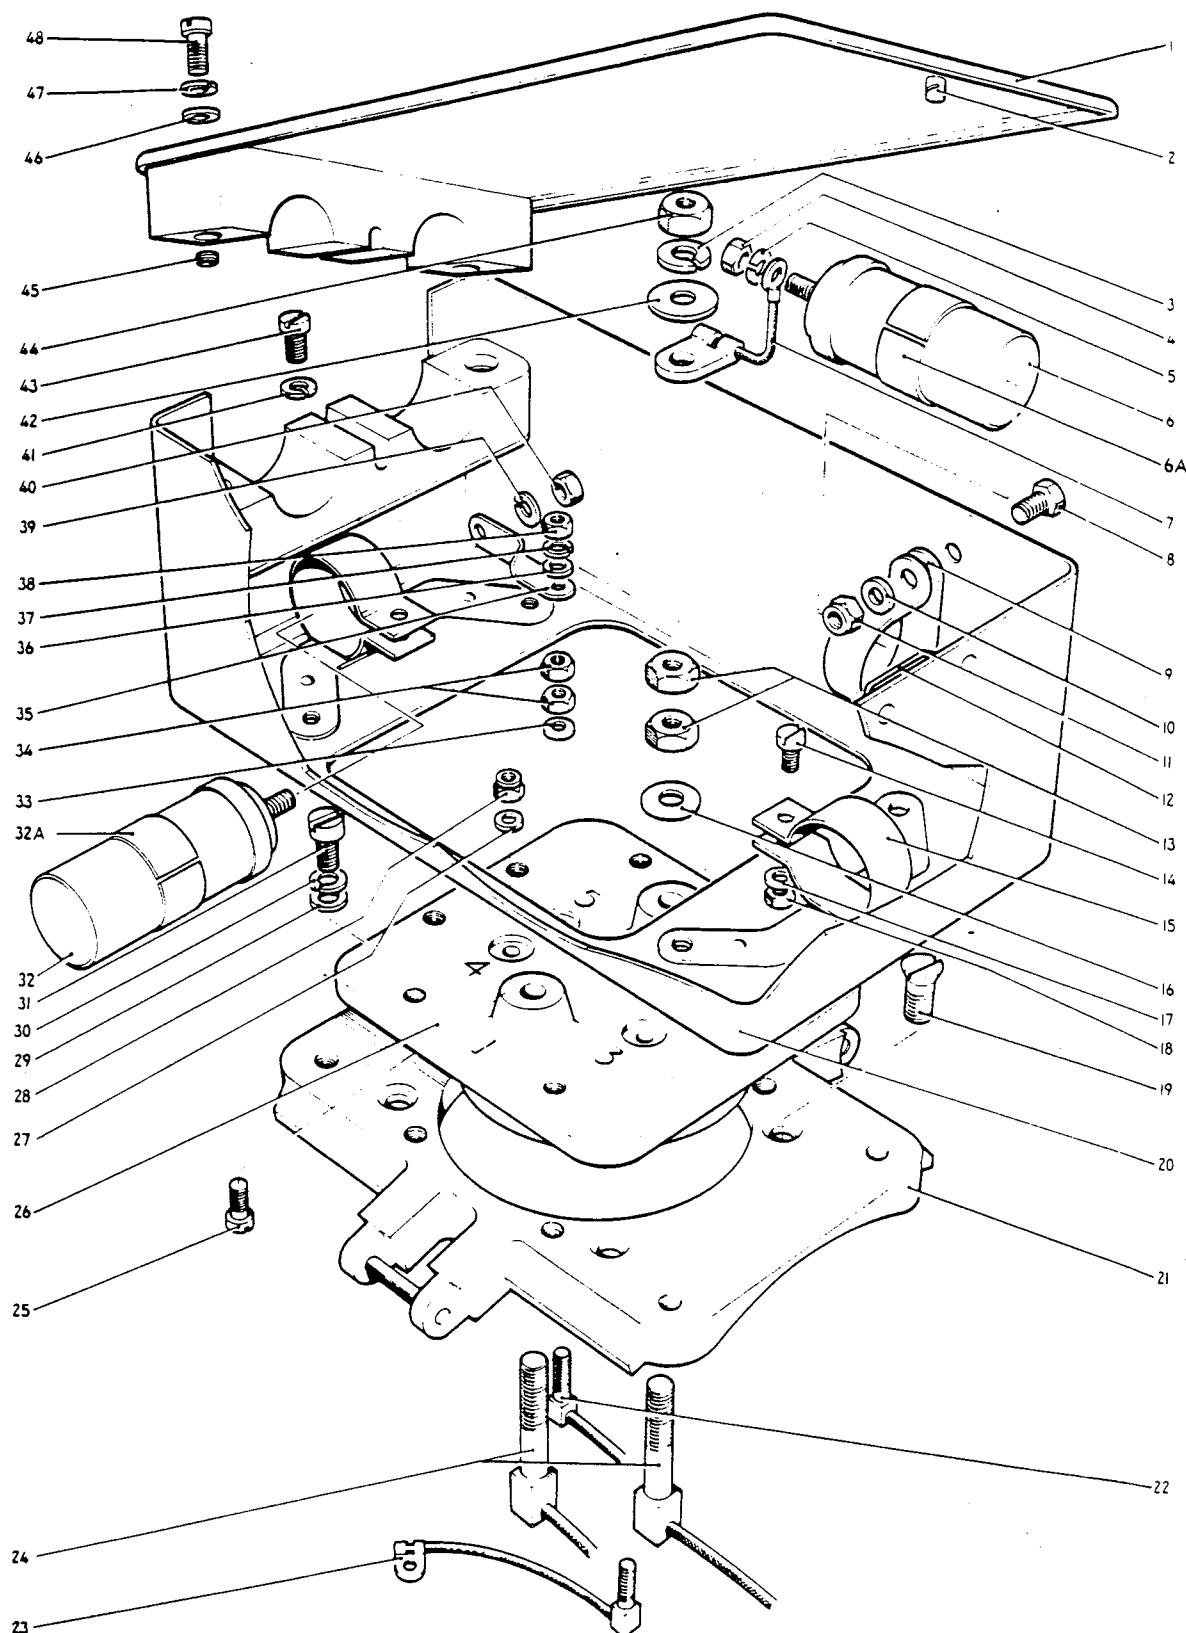

Fig.2 Generator terminal box - exploded view
Key to fig.2
4. Refer to fig.2 and proceed as follows: